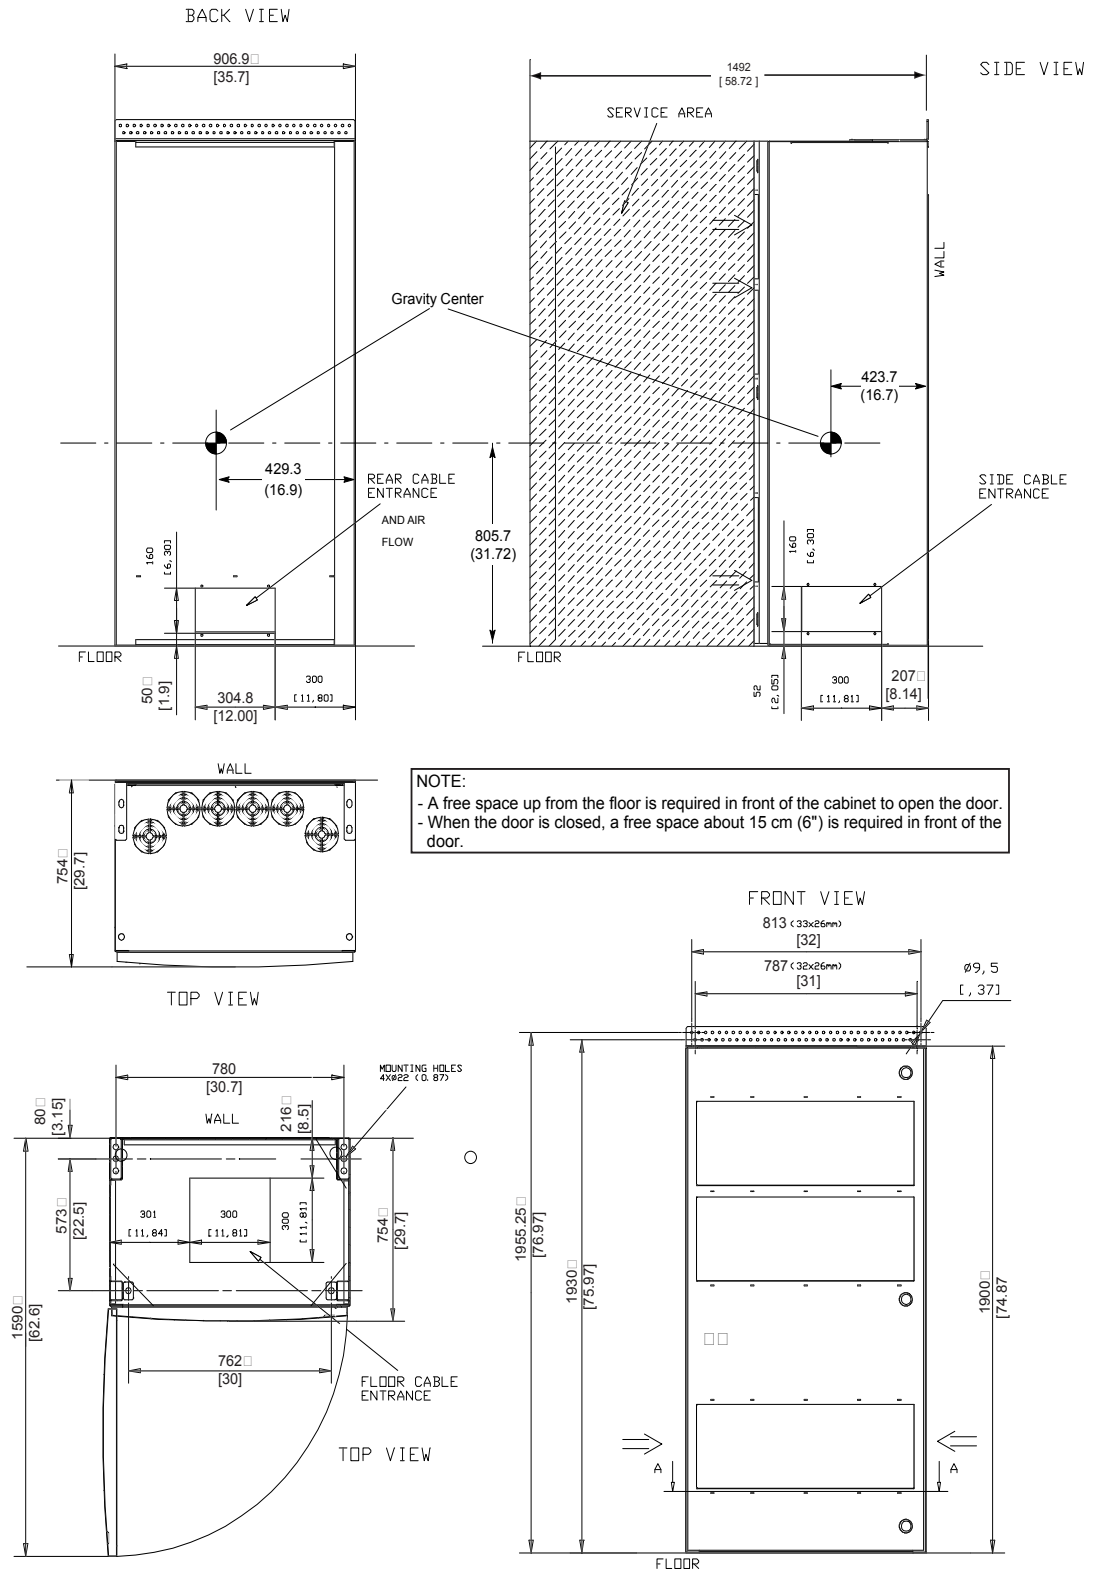
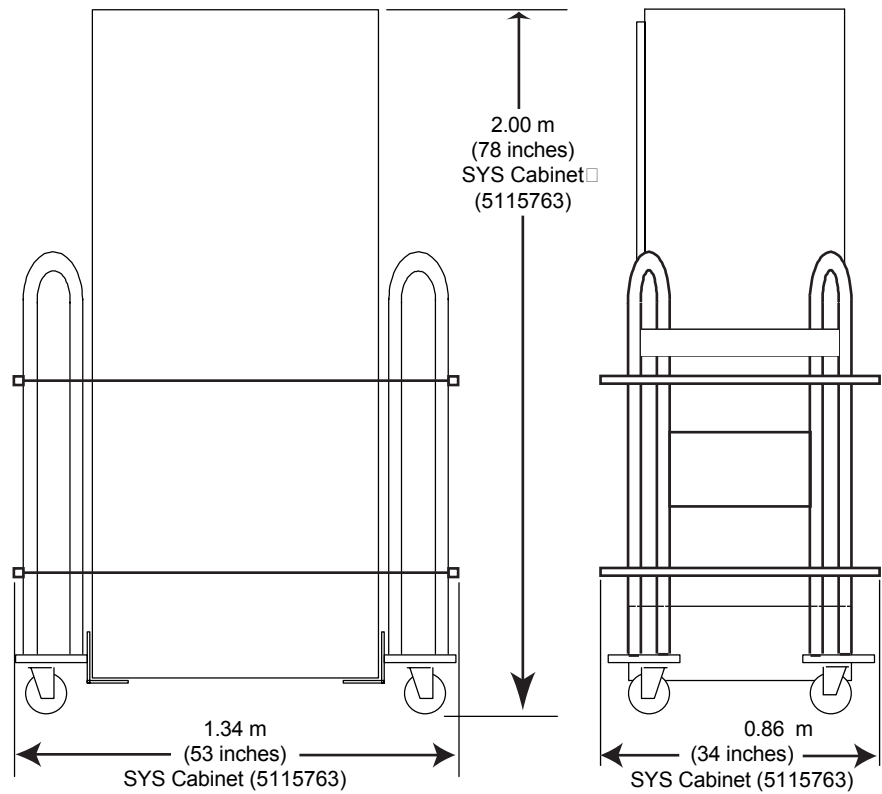

Figure 5-7 System Cabinet Dimensions
Figure 5-9 Typical Illustration Showing Shipping Dolly Dimensions
- System Cabinet (SKL) - Figure 5-7 through Figure 5-9.